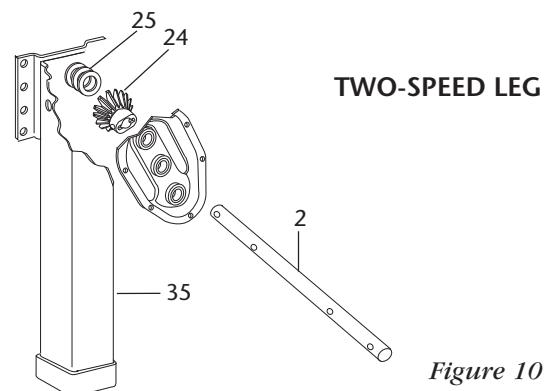
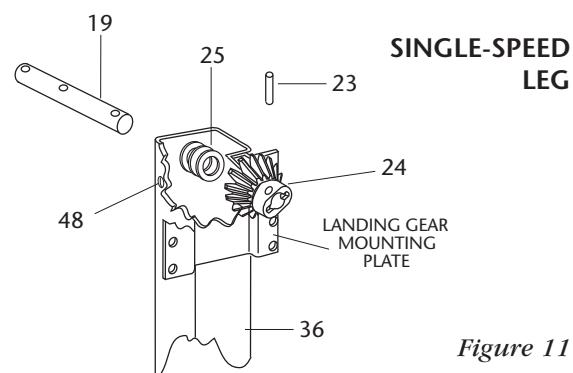

Figure 10
Figure 11
- Position the bevel pinion gear (**Item 24**) on top of the bevel gear. For single-speed legs the bevel pinion gear should be on the opposite side of the landing gear mounting plate, as shown in **Figure 11**. For two-speed legs, the bevel pinion gear should be against the mounting plate side of the landing gear, as shown in **Figure 10**.
- On two-speed legs, slide the drive shaft (**Item 2**) into the gearbox side of the outer leg (**Item 35**), through the bevel pinion gear, through any shims removed previously, and through the hole in the other side of the outer leg as shown in **Figure 10**.
On single-speed legs slide the bevel pinion gear shaft (**Item 19**) into the side of the outer leg (**Item 36**) opposite the landing gear mounting plate, through any shims removed previously, through the bevel pinion gear, and through the hole in the other side of the outer leg as shown in **Figure 11**.